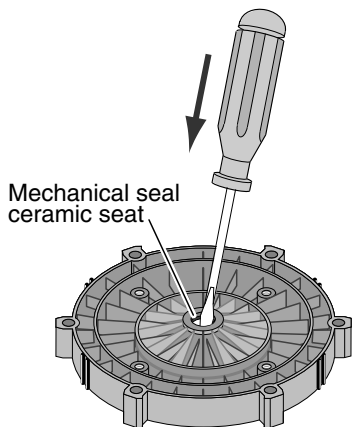

Figure 6
9. Place seal plate face down on flat surface and tap out ceramic seat (Figure 6).